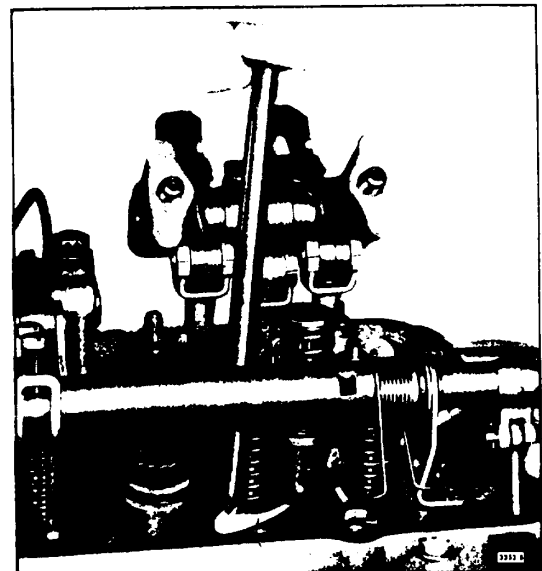

Fig 7. - Removing Injector from Cylinder Head
4. Remove the two rocker shaft bracket bolts and swing the rocker arms away from the injector and valves (Fig. 7).
7. Lift the injector from its seat in the cylinder head (Fig. 7).